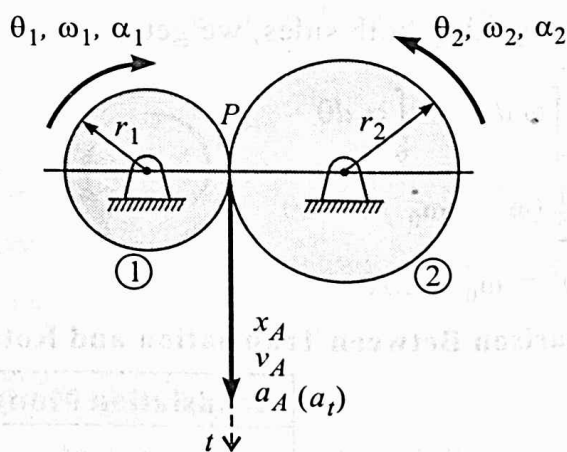

Fig. 13.4-i
Consider pulley ① of radius r_1 and pulley ② of radius r_2 mounted on pins rotating as shown in Fig. 13.4-i without slipping.